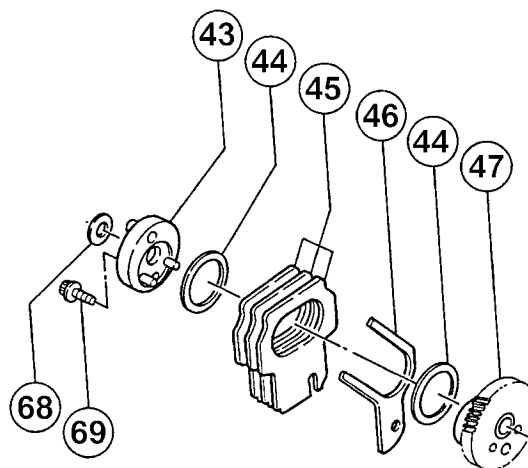

Fig. 9
(7) Disassembly of the Weight Holder [43] from the Gear Cover [51] (Fig. 9)